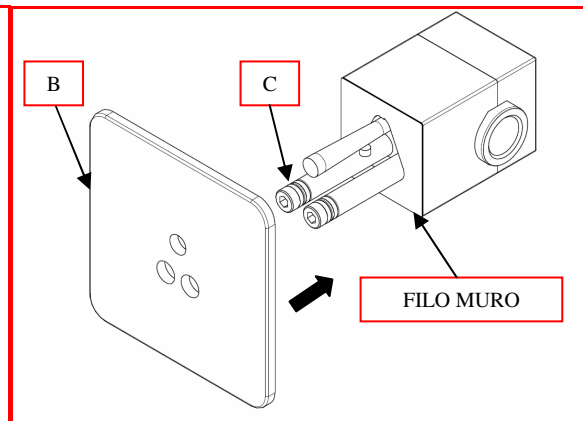

FIGURA 2 - MONTAGGIO PIASTRA SU CORPO INCASSATO
- 2 - INSERIRE LA PIASTRA DI COPERTURA (B) (FIGURA 2) SULLE CANNETTE (C) (FIGURA 2) APPOGGIANDOLA AL MURO;